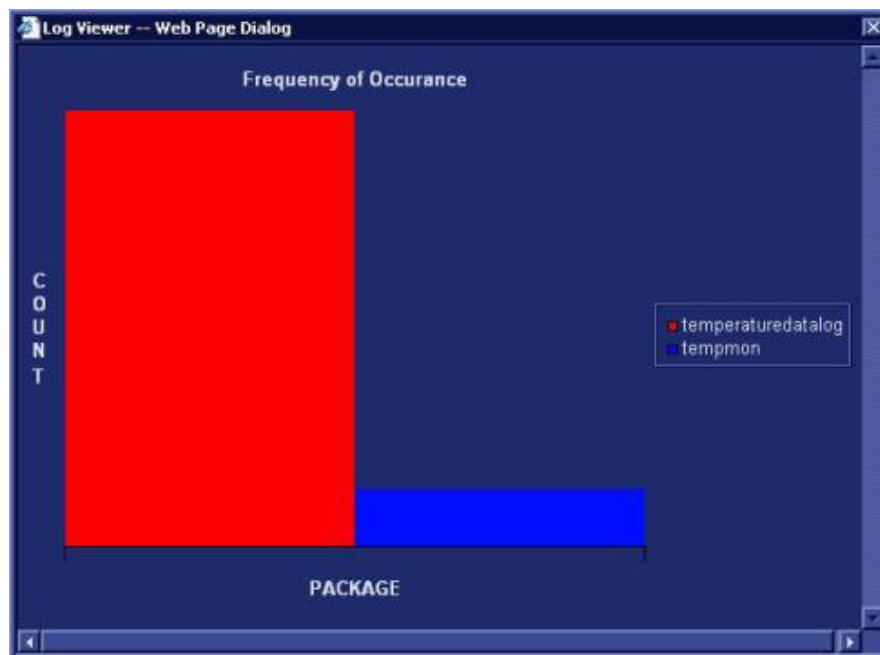

Figure 7-110 Plot Log Window
- **Plot Log:** Enables you to view the number of messages in the log in graphic form. For example, select **Power** or **Temperature** from the **Log** option on the **Logs Viewer** menu, and then select **Plot Log** to display the results as shown in Figure 7-110.